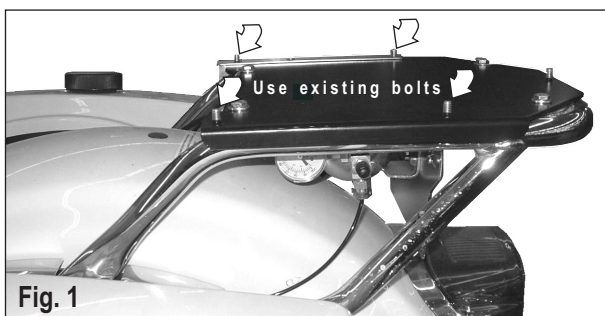

Fig. 1
1. Remove the radio box and place the bracket onto the radio box bolts (Figs 1 & 2).